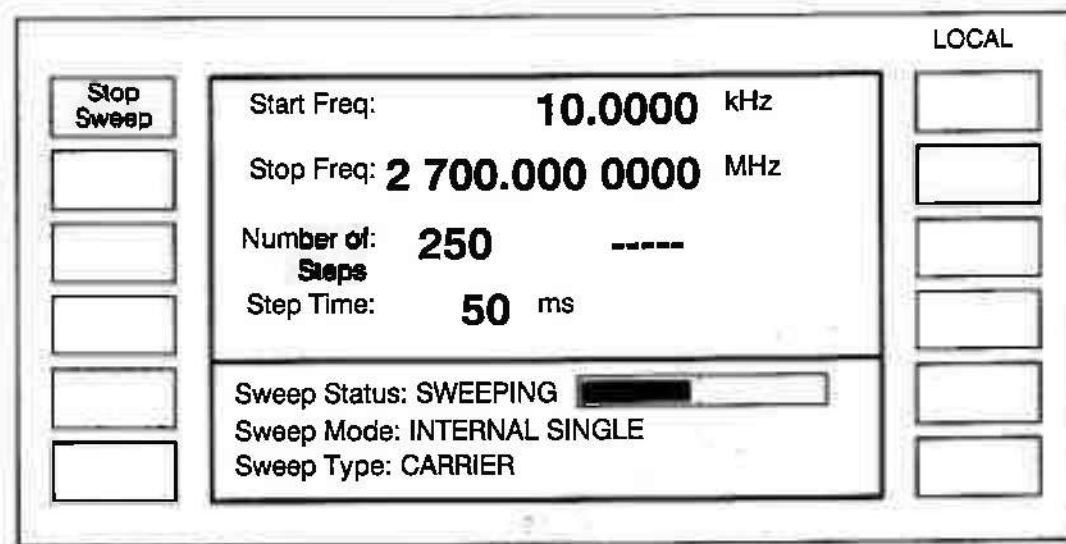

Fig. 11 Sweep in progress
and a solid bar increments to show the sweep progression, see Fig. 11.
43. Press *[Stop Sweep]*. The sweep stops and the menu presents the opportunity to change the sweep parameters by pressing *[Reset Sweep]*, to continue the sweep or to transfer the current value of the swept parameter as the last keyed in value in the *[SIG GEN]* or *[LF]([LF Gen])* mode, see Figs. 11 and 12. When the sweep is in the paused state, the \uparrow and \downarrow keys can be used to step the frequency up or down. The sweep can then be continued by pressing *[Continue Sweep]*. For use of external trigger modes see Para.?,